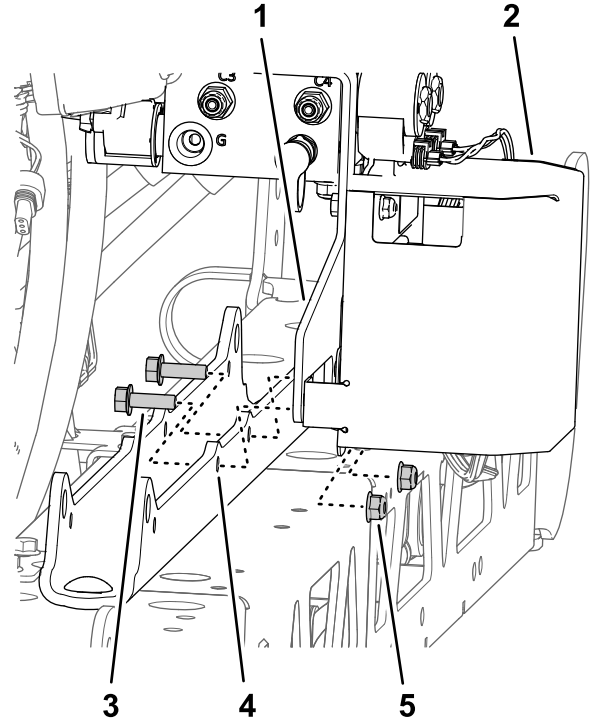

Figure 96
- B. Assemble the support bracket and TEC bracket to the cylinder mount (Figure 96) with the 2 flange-head bolt (5/16 x 1 inch) and flange locknut (5/16 inch) that you removed in step 1 of Removing the Section-Lift Manifold from the Center-Spray Section (page 25).